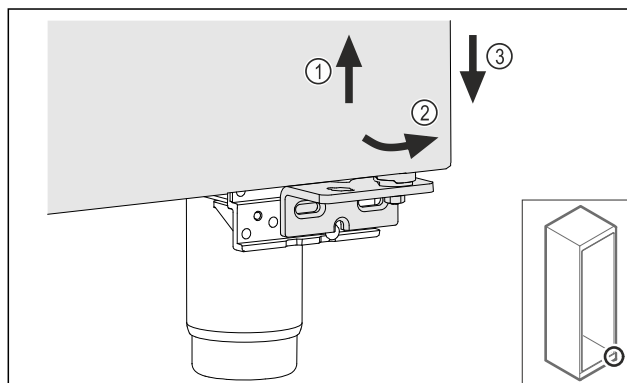

Fig. 16
- Lift the door slightly Fig. 16 (1), tilt it forwards at the bottom Fig. 16 (2) and lower it Fig. 16 (3).